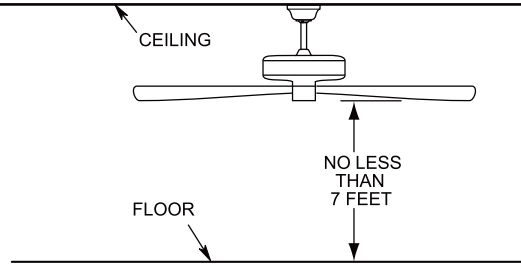
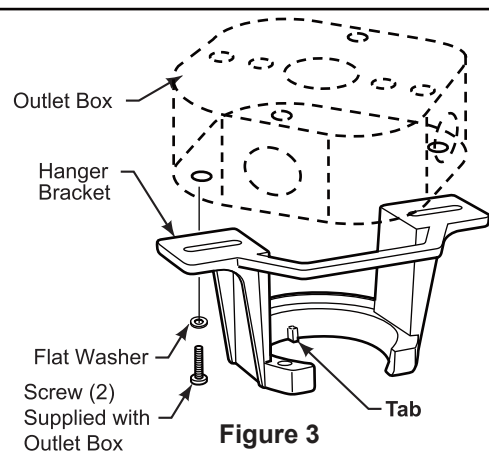

Figure 2
Figure 3
Your new ceiling fan will require a grounded electrical supply line of 120 volts AC, 60 HZ, 15 Amp Circuit. Electrical code requires use of a fan-rated outlet box to support the extra weight and motion associated with a ceiling fan. A fan-rated box will be labeled as such and typically supports up to a 70lb ceiling fan. Fan-Rated Outlet Boxes vary in ratings and design. Ensure the ratings of your ceiling fan outlet box meet the requirements for the ceiling fan being installed. Figure 1, Figure 2 and Figure 3 depicts different structural configurations that may be used for mounting the outlet box.
Deep box (Figure 2)
Deep box with brace (Figure 3)
2. Remove the hairpin clip and clevis pin from the bottom of the downrod. Retain the pin and clip for reinstallation in Step 4. (Figure 2)
3. Loosen the two set screws in the downrod support of the motor assembly. Route the black, white and blue wires through the downrod. (Figure 3)
The fan must be hung with at least 7' of clearance from floor to blades. (Figure 2)
1. Securely attach the hanger bracket to the outlet box (not included) using the outlet box screws and washers supplied with the outlet box. (Figure 3)
2. Securely attach and tighten the canopy screw cover over the shoulder screws in the hanger bracket utilizing the key slot twist-lock feature. (Figure 2)
2. Position the blade over the blade holder with threaded posts showing. Make sure the bottom edge of the blade is fully seated against the blade holder. With a phillips screwdriver, tighten 3/16"-24 washer head screws and fiber washers to secure the blade to the blade holder. (Figure 2)
3. Secure the blade holders to the bottom of the motor assembly using the 1/4"-20 screws from the hardware bag. (Figure 3)
2. Remove one of the three screws in the support bracket. Slightly loosen the remaining two screws. Assemble the adapter-switch housing to the housing support bracket using the two key slots in the adapter switch housing. Replace the third screw and securely tighten all three screws. (Figure 2)
3. Securely attach the 9-pin connector from the motor assembly to the wire harness socket within the light kit assembly. (Figure 3)